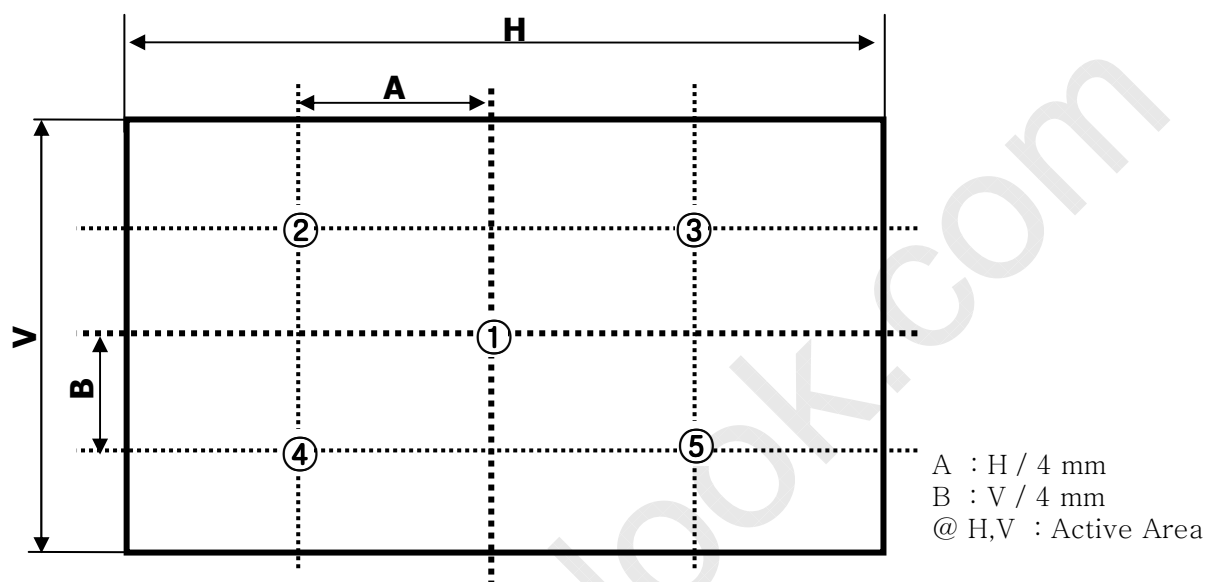

FIG. 2 Measure Point for Luminance
2. Surface luminance is determined after the unit has been 'ON' and 1Hour after lighting the backlight in a dark environment at  $25 \pm 2^{\circ}\text{C}$ . Surface luminance is the luminance value at center 1-point across the LCD surface 50cm from the surface with all pixels displaying white. For more information see the FIG. 2.
For more information, see the FIG. 2.